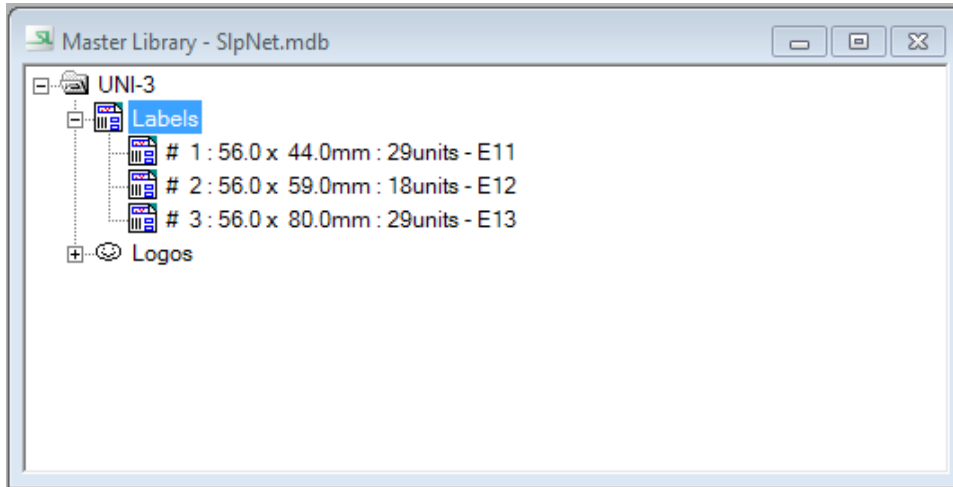

Figure 51-1
1. Select Tools, Configuration Library from the menu or select the Configuration Library icon from the tool bar. The Master Library will display. See Figure 51-1.